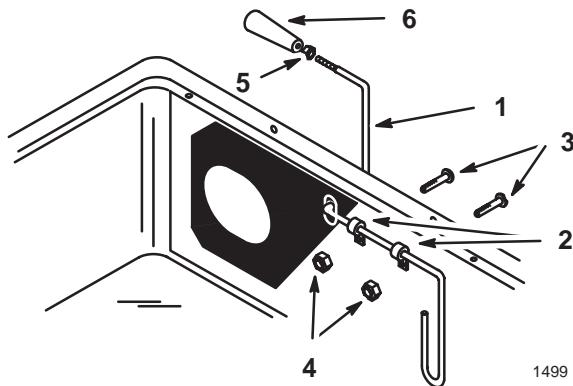

Figure 14
1. Install the full-bag indicator rod through the hole in the rubber seal and the slot in the bagger cover (Fig. 14). Mount the full-bag indicator rod against the bagger cover using two clips, screws (1/4 x 3/4 in.), and locknuts (1/4 in.) (Fig. 14).
2. Screw the nut completely onto the indicator rod (Fig. 14). Then screw the handle (Fig. 14) close to the nut so you can read the decal from the operator's position. Tighten the nut up against the handle to lock it in place.